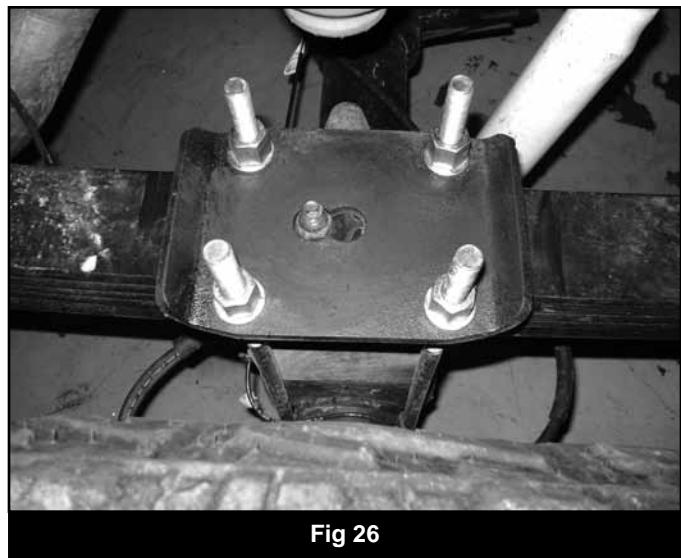

Fig 26
66. Raise the axle to engage the block spring alignment pins. Be certain the leaf center pin aligns with the REAR hole in the new lift block. Position the new u-bolt plate on the top of the spring over the center pin nut. Position the plate so the bolt pattern is shifted forward on the spring. (Fig 26) Fasten the entire assembly with the provided u-bolts and flanged nuts. Snug but do not torque the u-bolts at this time.
67. Repeat block installation of the driver's side. Take care not to over extend the brake lines. **Note:** *The parking brake cable bracket will need to be removed from the spring center pin. (Fig 26)*